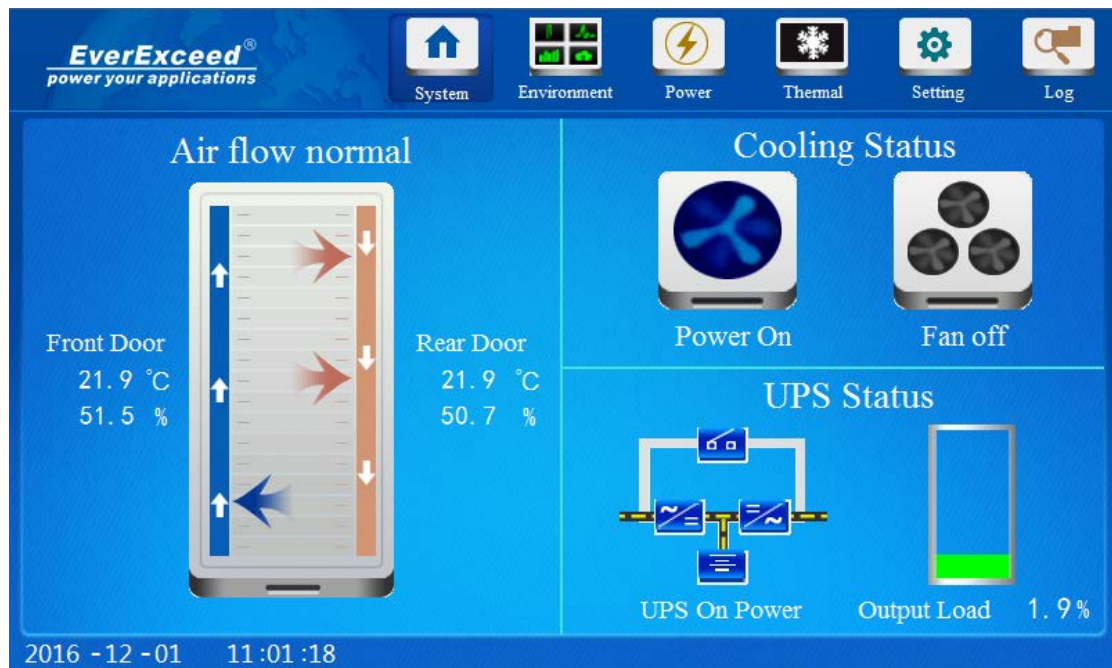

Figure 4-3 Menu
5. After the UPS is powered on, it enters self-test state (including battery self-test), all LED indicators blink and the beeper beeps discontinuously. After the self-test, the UPS will enter the standby mode, and the MAINS indicator will turn on, as shown in Figure 4-3 (a). Press the ON/SILENCE key for above 1s, and wait about 30s, the UPS will switch to inverter standby mode, and the INVERTER indicator will blink. When the UPS has output, the INVERTER indicator will turn on.
On the display screen, click the System menu at the upper part, the system page will appear, displaying air flow status, cabinet cold aisle temperature, hot aisle temperature, AC status and UPS status, as shown in Figure 4-3.